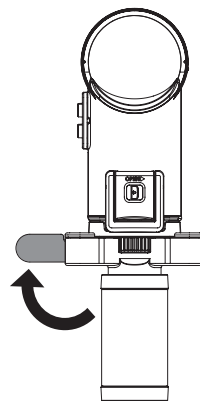

Figure 3
3. Rotate the flap 90 degrees upward. (Figure 3)